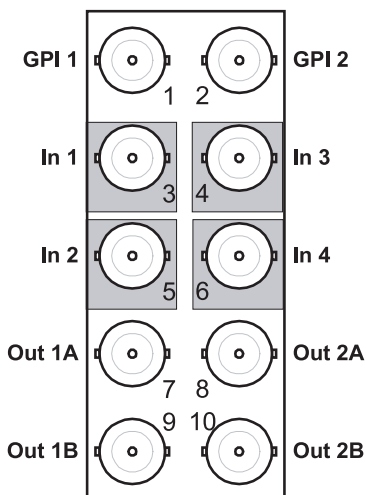

Figure 2.2 Cable Connections for the 8310AR-030 and 8320AR-030 Rear Modules
- **8310AR-030** Rear Module — When using this module, connect the input and output cables according to **Figure 2.2**. The inputs are internally terminated in 75 ohms. It is not necessary to terminate unused outputs.
- **8320AR-030** Full Rear Module — Each card occupies two slots and includes two GPI ports, four inputs, and four outputs. All connections use BNCs. (**Figure 2.2**)